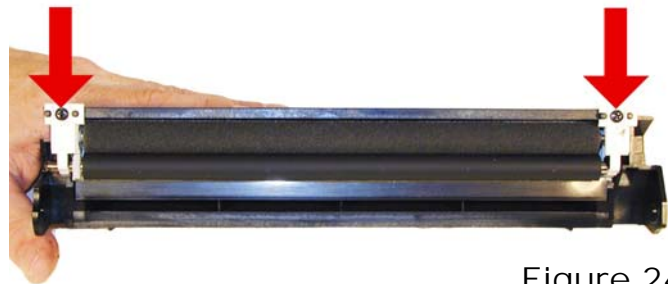

Figure 24
22) Re-assemble the PCR assembly and install it in the waste hopper. Install the 2 screws. Make sure it's not upside down! See **Figure 24**